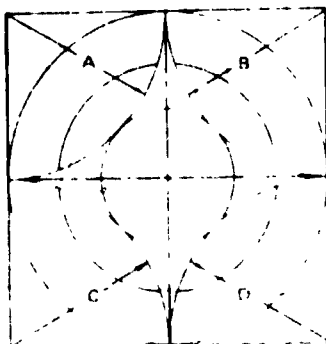

FIGURE 2
- A. Directions. Use "A" size drawing vellum with standard border and title block and divide the working space into two equal parts. Construct a $3\frac{1}{2}$ " square centered on the left side of the working space and construct a figure like the one shown in Figure 2 in that space. Draw $1\frac{3}{4}$ " radius arcs as A, B, C, and D, and construct small arcs so that they intersect as shown in Figure 2. Complete the problem by adding center lines.